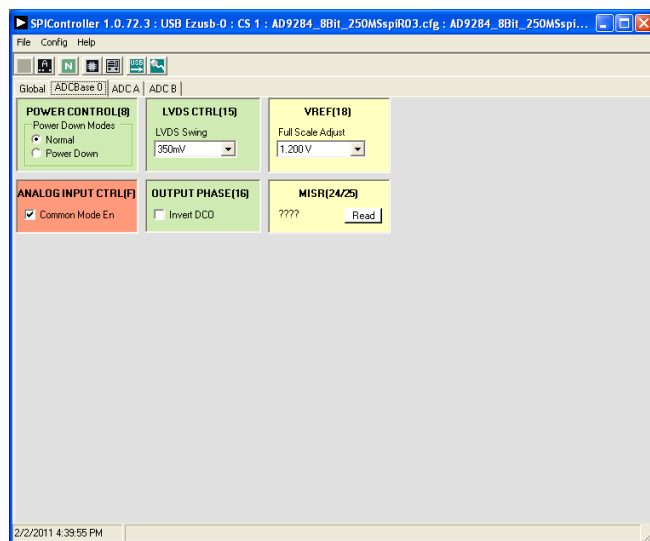
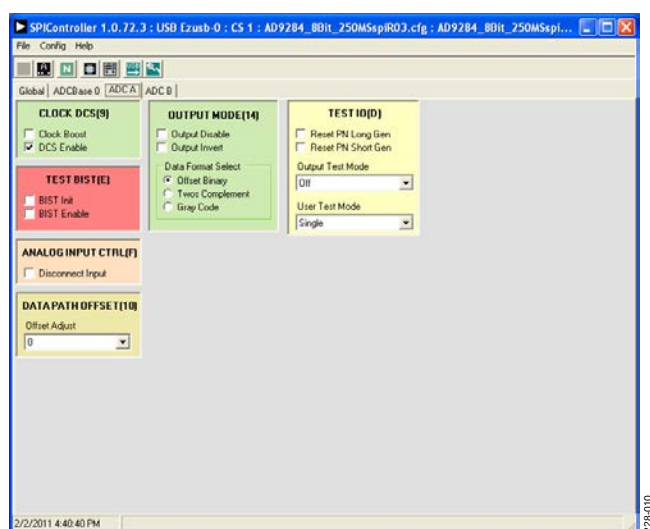

Figure 9. SPIController, ADC Base0
Figure 10. SPIController, ADC A Page
3. In the **ADCBASE 0** tab of the **SPIController** window, you can access all global register settings (see Figure 9). See the AD9284 data sheet; the AN-878 Application Note, *High Speed ADC SPI Control Software*; and the AN-877 Application Note, *Interfacing to High Speed ADCs via SPI*, for additional information.
4. Note that other settings can be changed on the **ADCBASE 0** page (see Figure 9) and the **ADC A** and **ADC B** pages (see Figure 10) to set up the part in the desired mode. The **ADCBASE 0** page settings affect the entire part, whereas the settings on the **ADC A** and **ADC B** pages affect the selected channel only. See the AD9284 data sheet; the AN-878 Application Note, *High Speed ADC SPI Control Software*; and the AN-877 Application Note, *Interfacing to High Speed ADCs via SPI*, for additional information on the available settings.